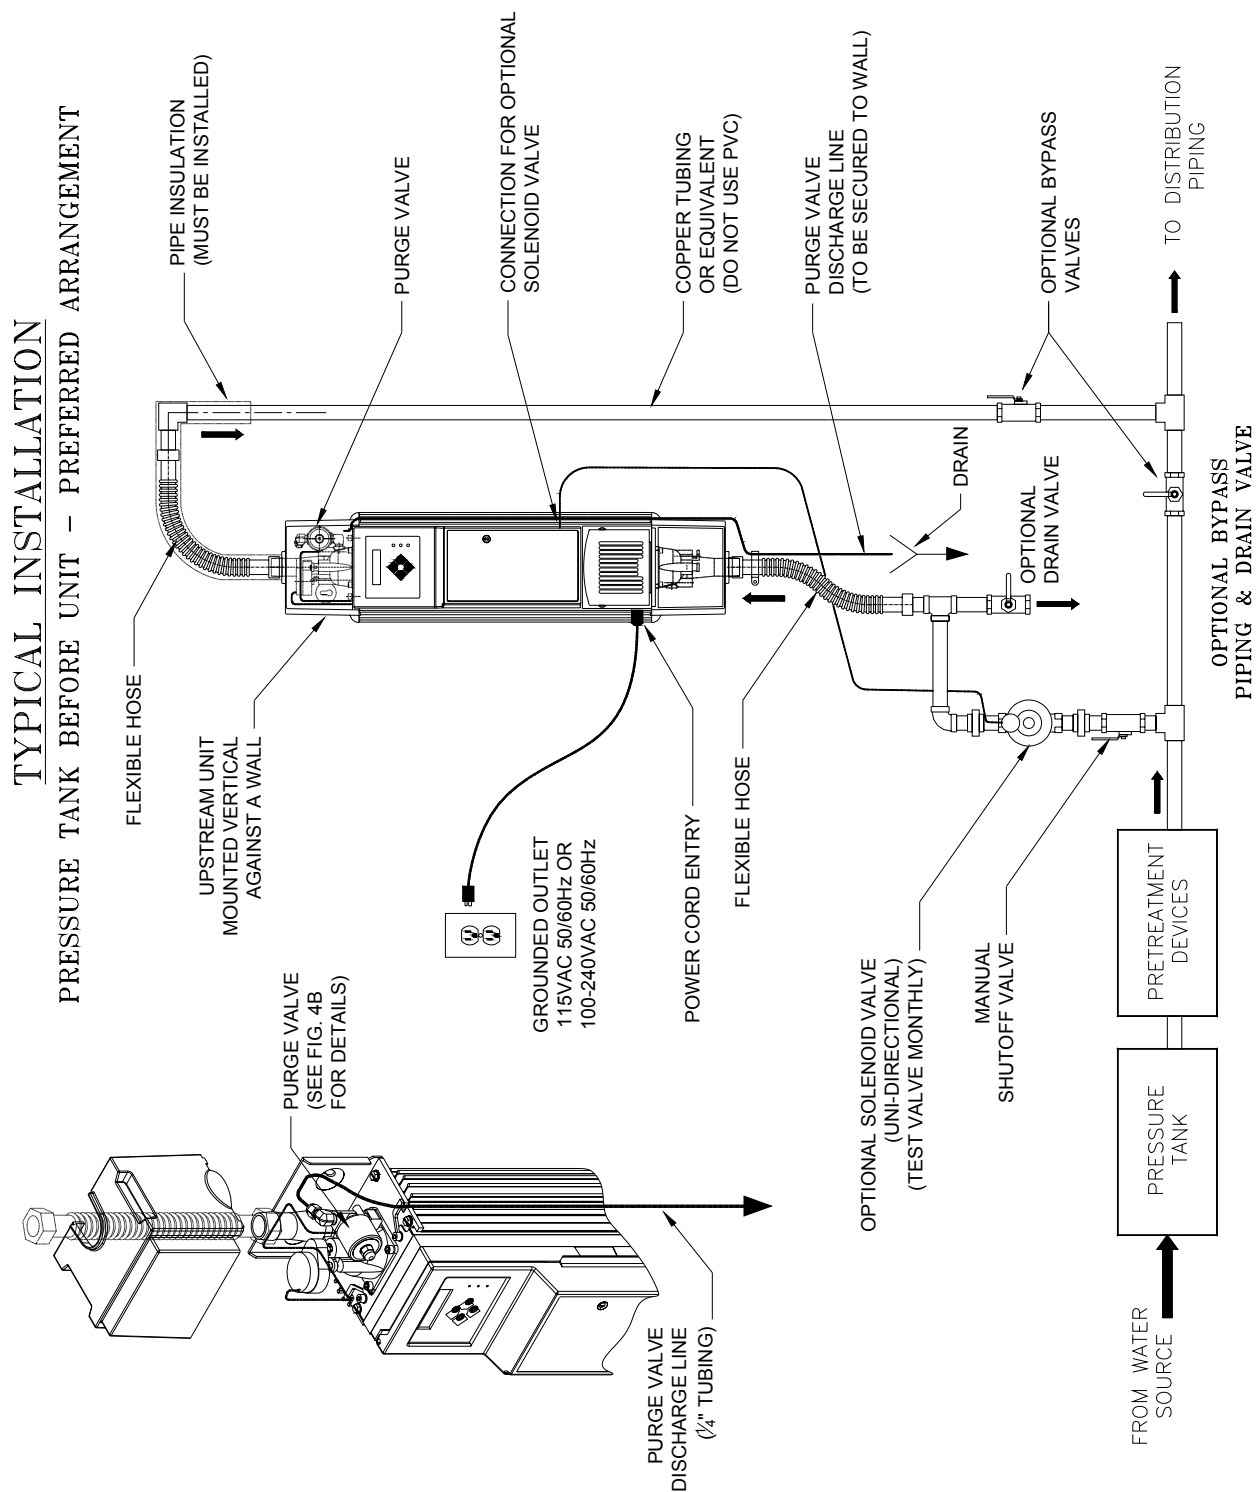

Figure 1B
The Upstream requires four # 12 to 1/4" diameter fasteners (not provided) to mount to a wall. It also requires male NPT fittings for the hose connections and also for the optional solenoid valve (1" or 1.5"). The Upstream unit requires a drain for purge valve discharge line. These fittings, pipe insulation, and any piping compatible with the plumbing should be on hand before you begin installation. See Figure 1B and make a list of all necessary components including solder, paste and thread sealant. Bypass piping and valves that isolate the unit are optional, (but recommended) as is a drain valve for draining the unit.
Step 2: If you have decided to install an optional bypass line and drain, you may begin to install these fittings at this point. See Figure 1B or 1C for more information on how to connect optional bypass piping and drain.
Step 2: Plug the female end of the power cord into the power entry module located on the left side of the front panel. The power cord must be removed before front panel can be opened. See Figure 1B or 1C.